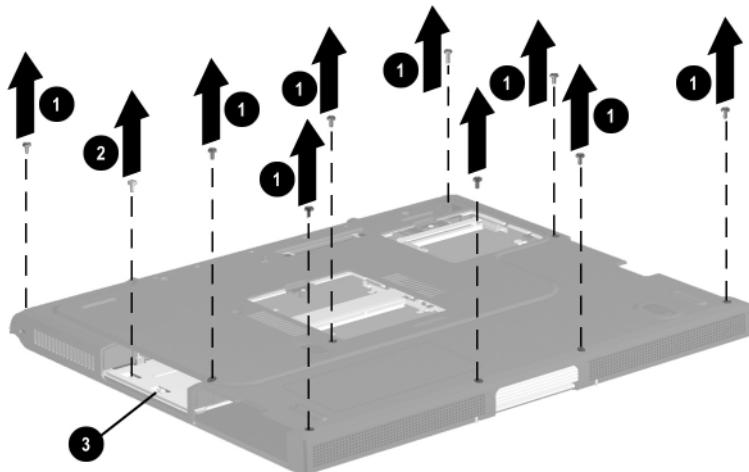

Figure 5-21. Removing the Top Cover Screws
3. Remove the nine PM2.0 × 8.0 screws ① securing the top cover to the base enclosure (Figure 5-21).
4. Remove the PM2.0 × 4.0 screw ② securing the top cover to the base enclosure in the hard drive bay.